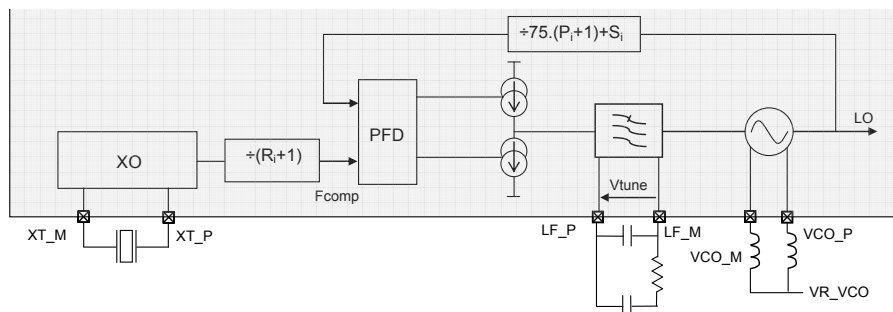

Figure 5: Frequency Synthesizer Description
The crystal oscillator (XO) forms the reference oscillator of an Integer-N Phase Locked Loop (PLL), whose operation is discussed in the following section. Figure 5 shows a block schematic of the SX1213 PLL. Here the crystal reference frequency and the software controlled dividers R, P and S determine the output frequency of the PLL.
As shown in Figure 5 the PLL structure comprises three different dividers, R, P and S, which set the output frequency through the LO. A second set of dividers is also available to allow rapid switching between a pair of frequencies: R1/P1/S1 and R2/P2/S2. These six dividers are programmed by six bytes of the register MCPParam from addresses 6 to 11.